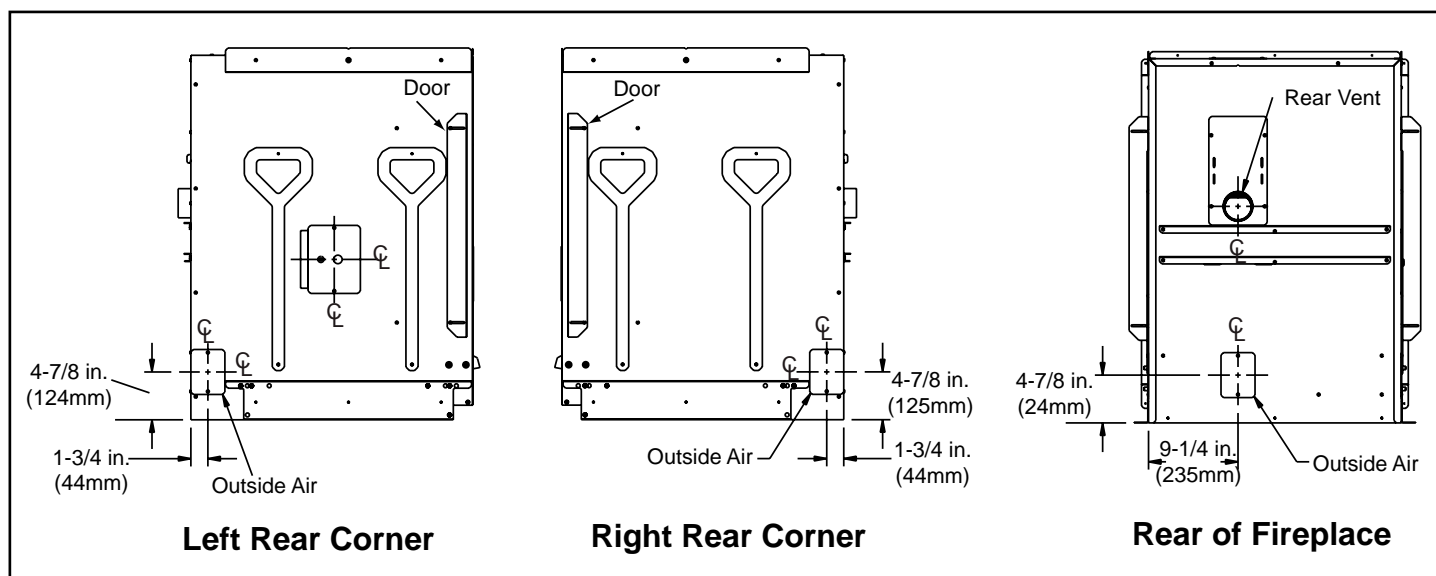

Figure 42.1 - Outside Air Inlet Locations
- The outside air kit can be installed in three different locations - the left or right side or from the back. **Figure 42.1 on page 42.**